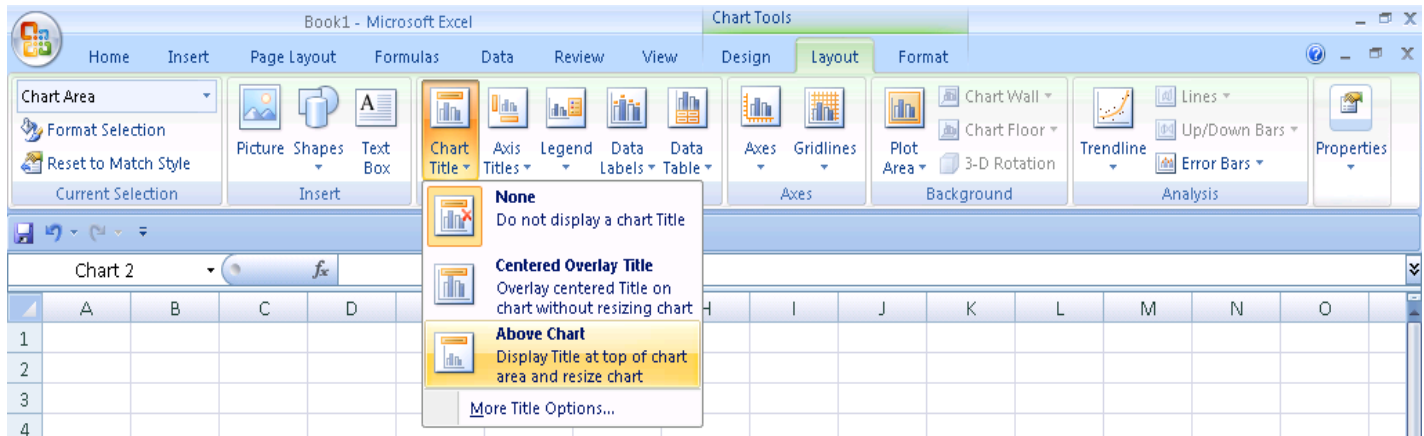

Figure-4
5.8 Click the “**Chart Title**” icon as per shown in **Figure-4**.
5.9 Select the “**Above Chart**” sub icon as per shown in **Figure-4**.